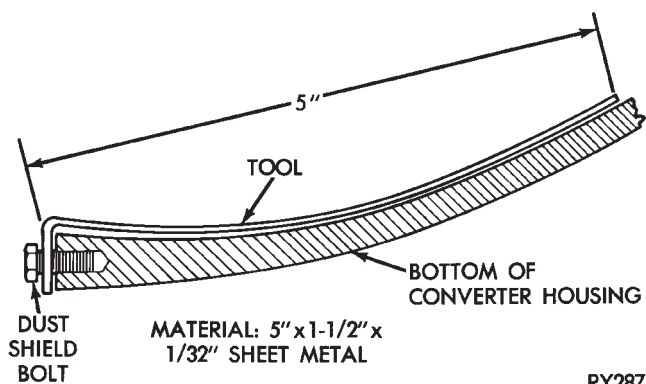

Fig. 4 Leak Locating Test Probe Tool
- (1) Remove torque converter housing dust shield.
- (2) Clean the inside of torque converter housing (lower area) as dry as possible. A solvent spray followed by compressed air drying is preferable.
- (3) Fabricate and fasten test probe (Fig. 4) securely to convenient dust shield bolt hole. Make certain torque converter is cleared by test probe. Tool must be clean and dry.
- (4) Run engine at approximately 2,500 rpm with transaxle in neutral, for about 2 minutes. Transaxle must be at operating temperature.
- (5) Stop engine and carefully remove tool.
- (6) If upper surface of test probe is dry, there is no torque converter leak. A path of fluid across probe indicates a torque converter leak. Oil leaking under the probe is coming from the transaxle torque converter area.
- (7) Remove transaxle and torque converter assembly from vehicle for further investigation. The fluid should be drained from the transaxle. Reinstall oil pan (with Mopar® Silicone Rubber Adhesive Sealant or equivalent) at specified torque.